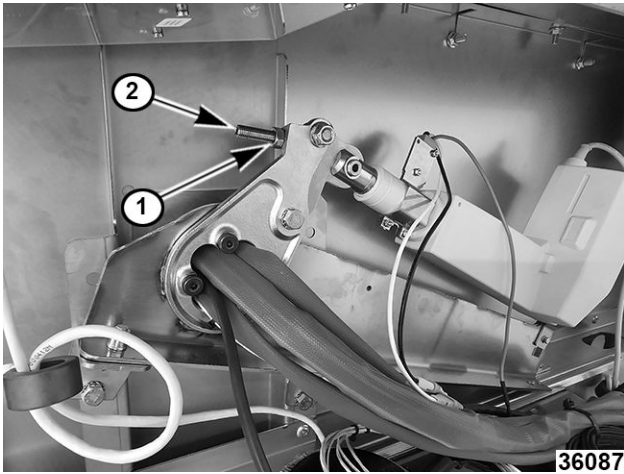

Fig. 78
5. Loosen lock nut (1, Fig. 78) and adjustment screw (2, Fig. 78) on adjustment arm on ram.